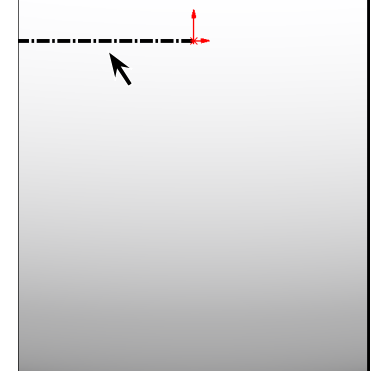

Fig. 19
Step 13. Sketch **horizontal centerline from Origin** , **Fig. 19**.